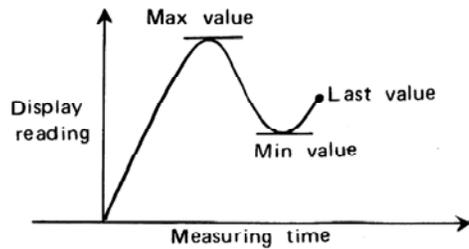

Fig. 2
6.1 A readout (the last value, max. value, min. value) is obtained immediately before turning off the MEASURING BUTTON is automatically memorized. For example, please refer to figure 2.